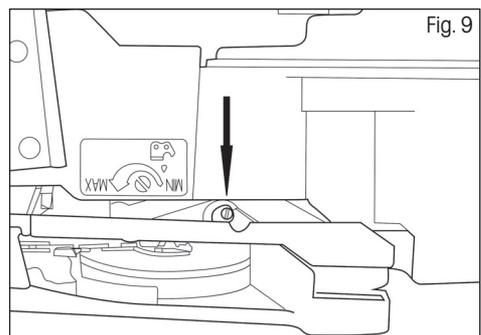

Fig. 9
- ☼ Before starting work, check the chain lubrication and the amount of oil in the oil tank. Start the chain saw and hold it above the ground. If you see a growing oil stain then chain lubrication is working properly. If there are no oil stains on the ground, adjust the lubrication strength on the underside of the chain saw (Fig. 9)